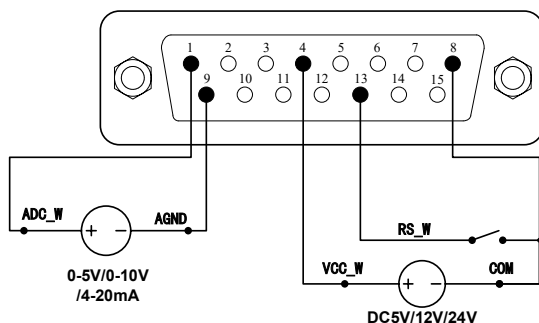
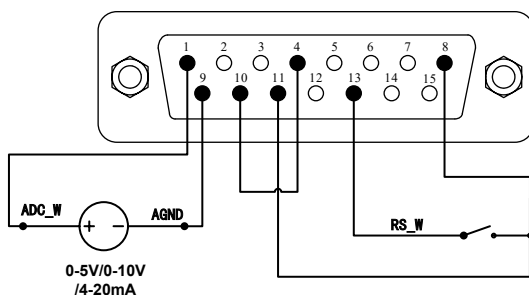

Figure 8. DB15 Wiring with External Power Source
Figure 9. DB15 Wiring with Internal Power Source
- 1) Switch the power off. Wire the DB15 connector as shown in Figure 8 or Figure 9, and connect it to the DB15 port on the rear of the